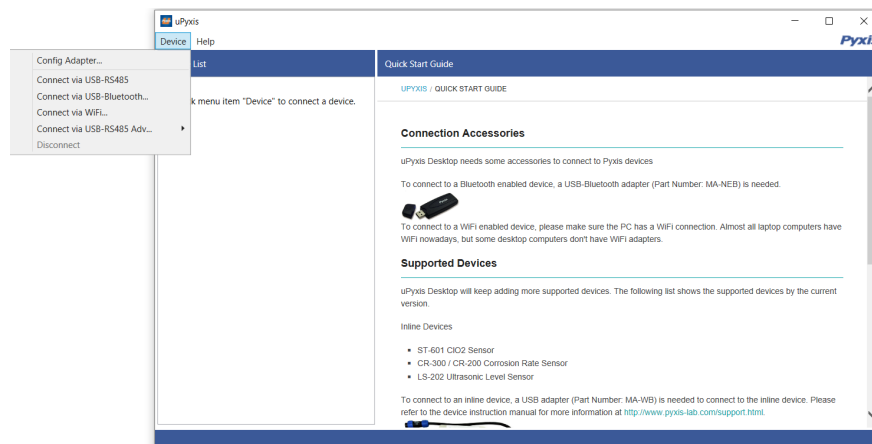

Figure 34.
4. On **uPyxis®** Desktop App, click Device → **Connect via USB-Bluetooth** (Figure 34).
5. If the connection is successful, the SP-400 and its Serial Number (SN) will be displayed in the left pane of the **uPyxis®** window.